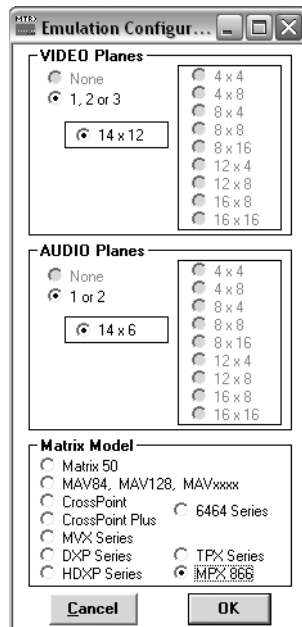

Figure 51. Emulate Configuration Dialog Box
5. Select **MPX 866** as the Matrix Model, **14 x 12** as the Video Planes; and **14 x 6** as the Audio Planes (see figure 51). Click **OK**.